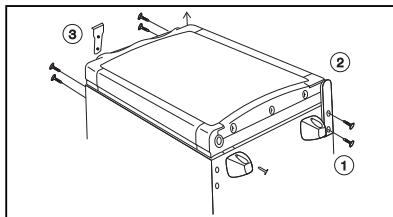

Figure 6.
This frost-formation is kept back by the FUZZY LOGIC system built into the appliance by switching off the unit for two hours in every 24 hours. The frost will melt and the defrost water will run through the drain tube from the drip channel into an evaporating vessel located at the bottom rear of the refrigerator at all models. (Fig. 6.) The defrost water will evaporate automatically into the circulating air and the vessel will not need emptying manually.
- The drained water runs in a groove and from there continues along a pipe through the refrigerator's rear panel and into a collection container on the cooling unit, where the water evaporates by itself (fig. 6.). Should the frost layer become very thick, there is a danger of the collection basin overflowing. In this case the water should be absorbed by a cloth placed under the ribs. The water in the freezer compartment should also be absorbed by a cloth.